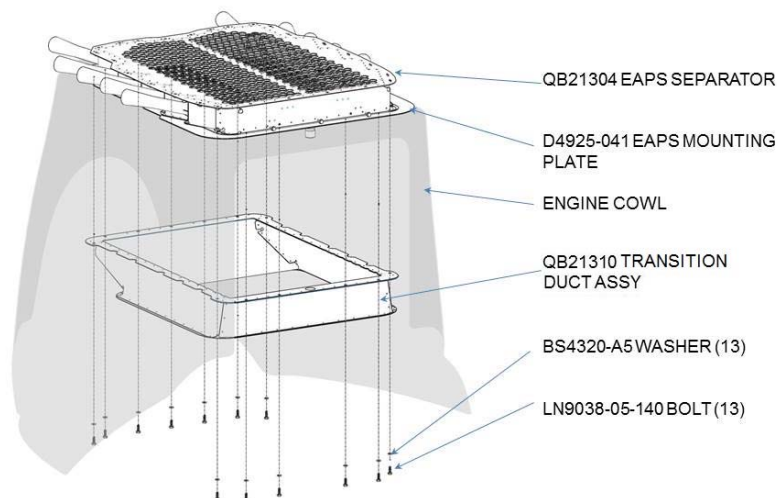

Figure 7- QB21310 Duct Assembly Installation
- 3.1.11. From the underside of the Engine Cowl, align the QB21310 Transition Duct Assy to the existing holes in the cowl using Qty (13), LN9038-05-14 bolts and Qty (13) BS4320-A5 washers (6 on forward side, 7 on aft side). See Figure 7.